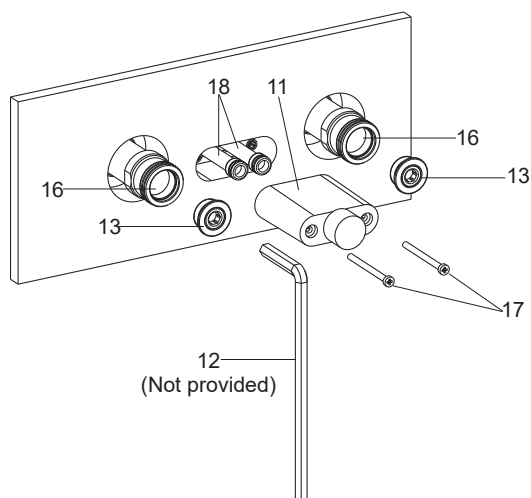

Fig. 5
Cut off the protectors(10) beyond the wall after the wall is finished. As **Fig. 5** shown, uninstall and discard the plugs(13) from the connections(16) with 8mm hex wrench(12, not provided). Remove the screws(17) from the protector(11) with screwdriver(not provided) and pull it out. Check whether the O-rings on the connections(16) and showerhead tubes(18) are intact.